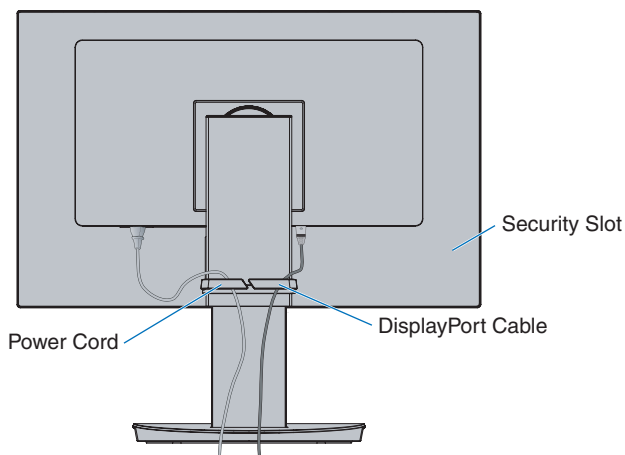

Figure 5
4. Please check that you can still rotate, raise and lower the monitor screen after you have installed the cables (**Figure 5** and **Figure 6**).